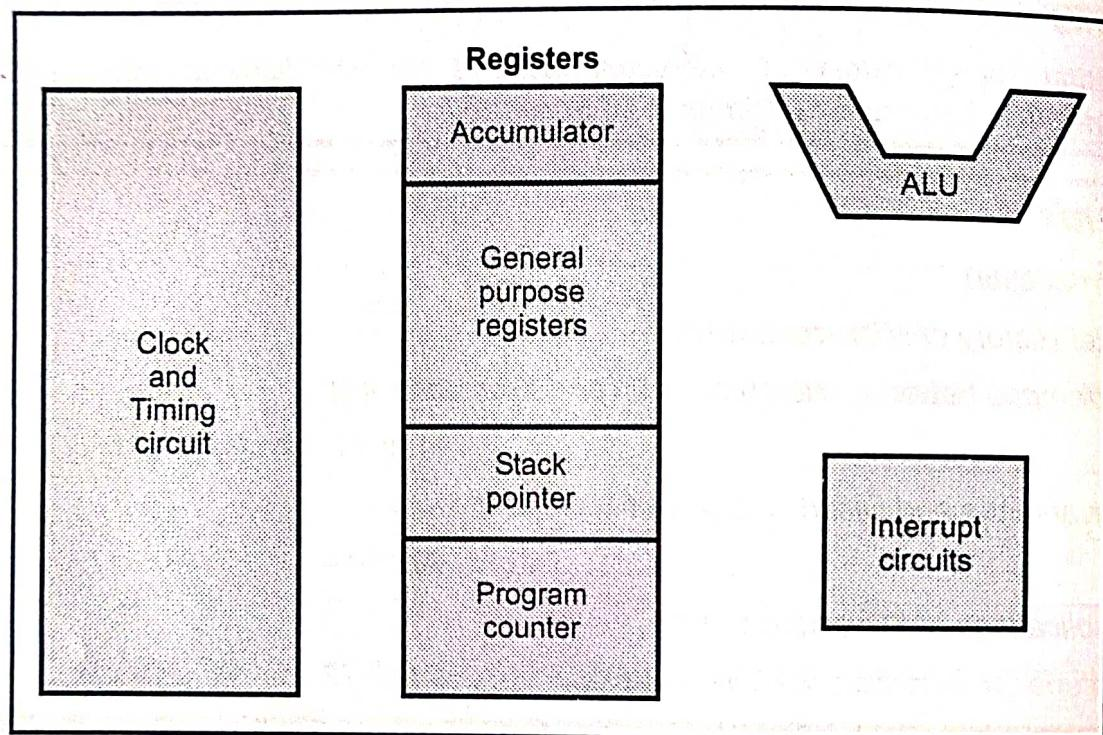

Fig. 1.1.1 Simplified block diagram of a microprocessor
- Fig. 1.1.1 shows the simplified block diagram of a microprocessor. As shown in the Fig. 1.1.1 it consists of an Arithmetic and Logic Unit (ALU), general purpose registers, Stack Pointer (SP), Program Counter (PC), clock timing circuit and interrupt circuit.